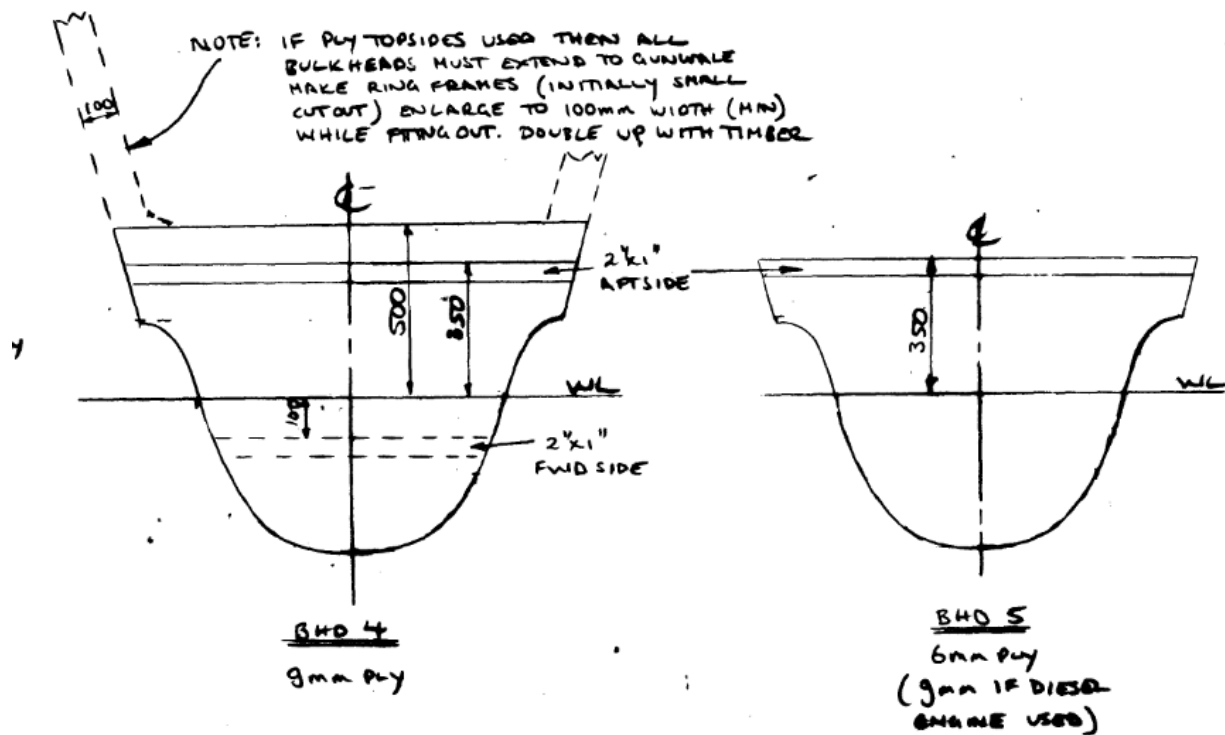

Figure 6: Lower Sections of Bulkheads 4 & 5
- Figure 6: Lower Sections of Bulkheads 4 & 5;
- Figure 6: Lower Sections of Bulkheads 4 & 5